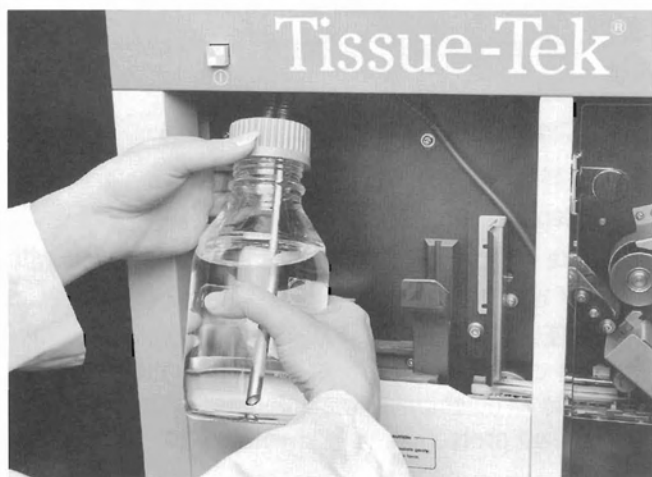

Figure 2-1
6. Make sure the glass xylene bottle is clean and dry. Fill the bottle with xylene to the upper mark on the bottle. Place the metal tube into the bottle, then place the bottle onto the platform in the upper left corner of the instrument (Figure 2-1).